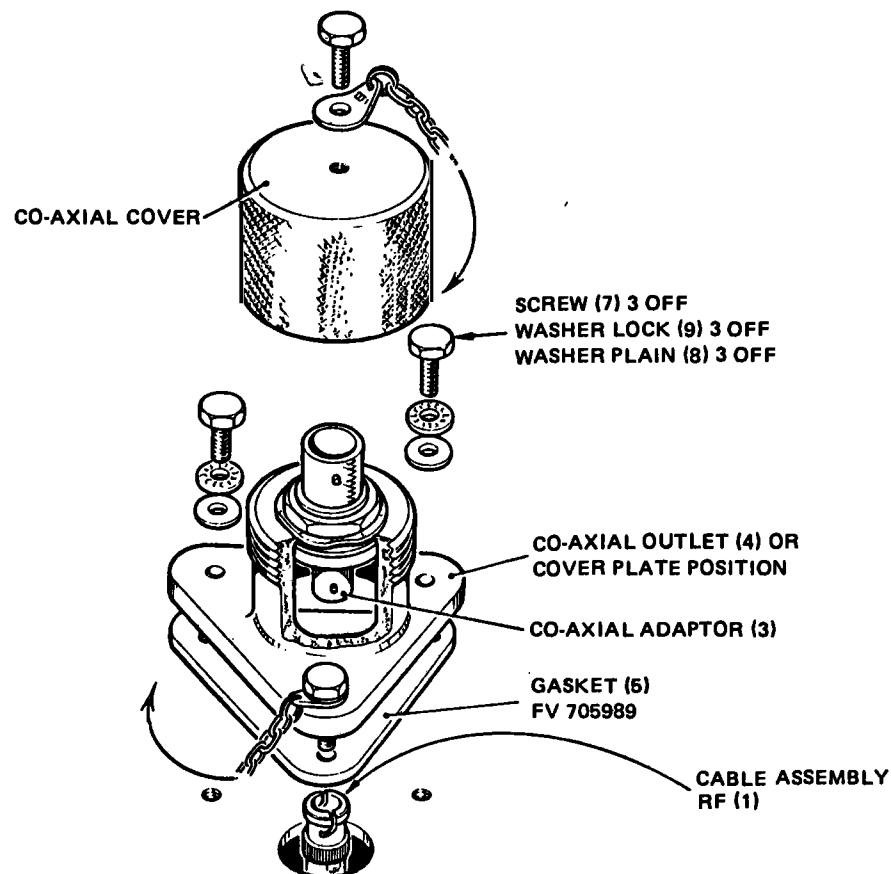

Fig 8 Co-axial outlet assembly diagram
A co-axial outlet position is provided, on MK II vehicles only, in the 'A' set position to allow a remote antenna to be used with the installation. Fit the co-axial outlet on the forward r.h.s. exterior as per Fig 8. Numbers in brackets after item title refer to item numbers in Table 3.
13.8.3 Assemble a co-axial outlet as detailed in Fig 8.